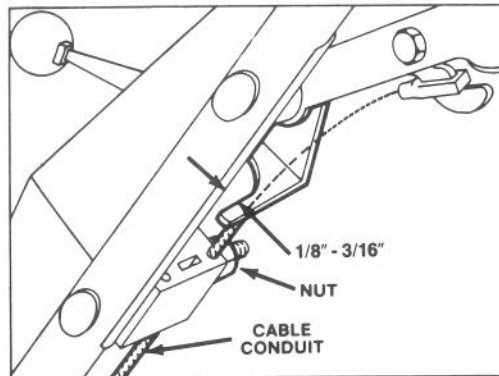

Figure 15
2. **CHECK ADJUSTMENT** (Fig. 15) — Move control bar toward handle until slack in wire is removed. Gap between brake lever and handle must be $1/8'' - 3/16''$. See step 3 for adjustment.
3. **ADJUST CABLE CONDUIT** — Loosen nut on cable bracket (Fig. 15). Insert $1/8'' - 3/16''$ object between brake lever and handle. Pull down on cable conduit until slack is removed. Then tighten nut.